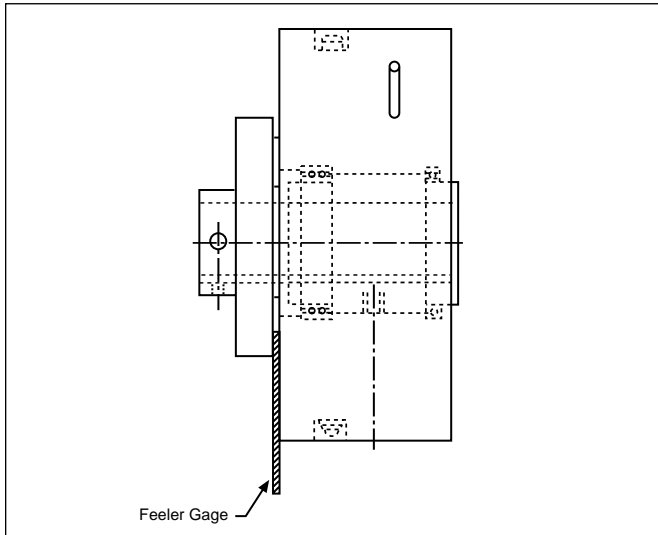

FIGURE 14
- Measure the gap around the periphery between the coupling flange and the clutch housing **without rotating** the shafts. Refer to Figure 14.
- a. Measure the gap around the periphery between the coupling flange and clutch housing **without rotating** the shafts. Refer to Figure 14.